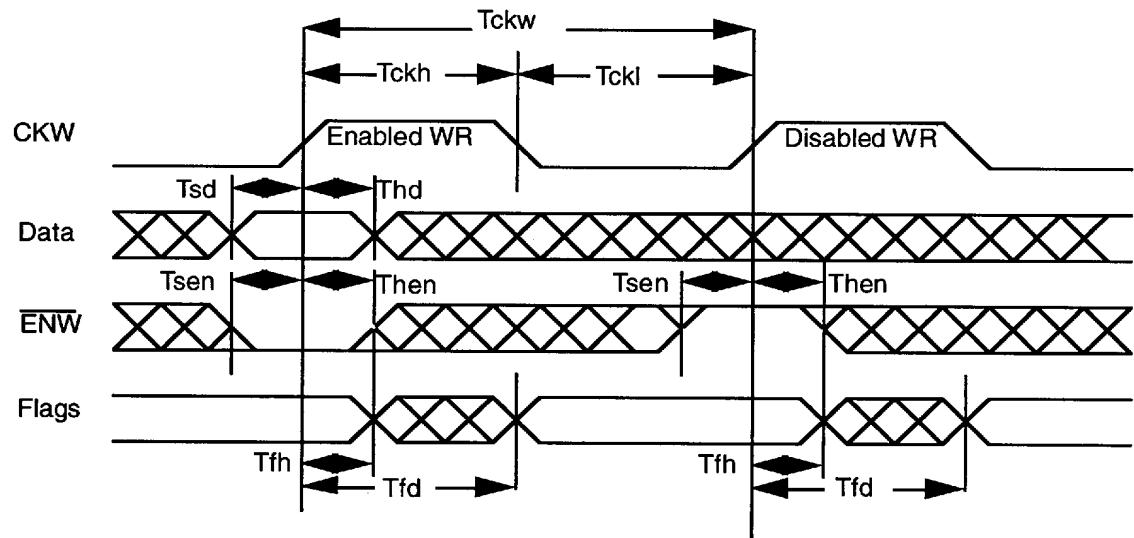

Figure 1. Write Timing
(1) Test conditions: input switching levels $V_{IL}/V_{IH}=0.5V/V_{DD}-0.5V$ (CMOS), $V_{IL}/V_{IH}=0V/3V$ (TTL), input rise and fall times <1 ns/V, input and output timing reference levels shown in the Tester AC Timing characteristics Table, capacitive output loading $C_L=50$ pF. For $C_L > 50$ pF, derate access times by 0.02 ns/pF (typical).
(2) Worst case operating conditions: $V_{DD}=4.5V$ to $5.5V$, $TC=-55^{\circ}C$ to $+125^{\circ}C$, post total dose at $25^{\circ}C$.
(3) For flag updates, $tskew1$ is the minimum time an opposite clock can occur after a clock and still not be included in the current clock cycle. At less than $tskew1$, inclusion of the opposite clock is arbitrary.
(4) For flag updates, $tskew2$ is the minimum time an opposite clock can occur before a clock and still be included in the current clock cycle. At less than $tskew2$, inclusion of the opposite clock is arbitrary.
(5) Timing parameters are defined in Figures 1 through 6.